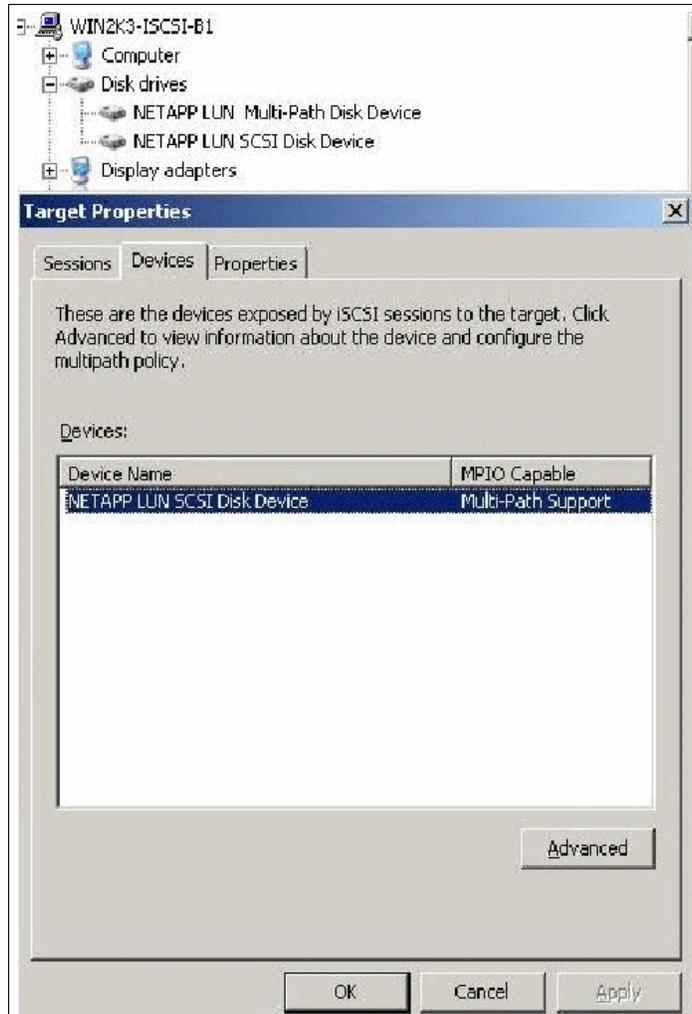

Figure 2-41 Target Properties window
5. From the Windows Device Manager view, there will be a single path from the host to the storage, as shown in Figure 2-41.